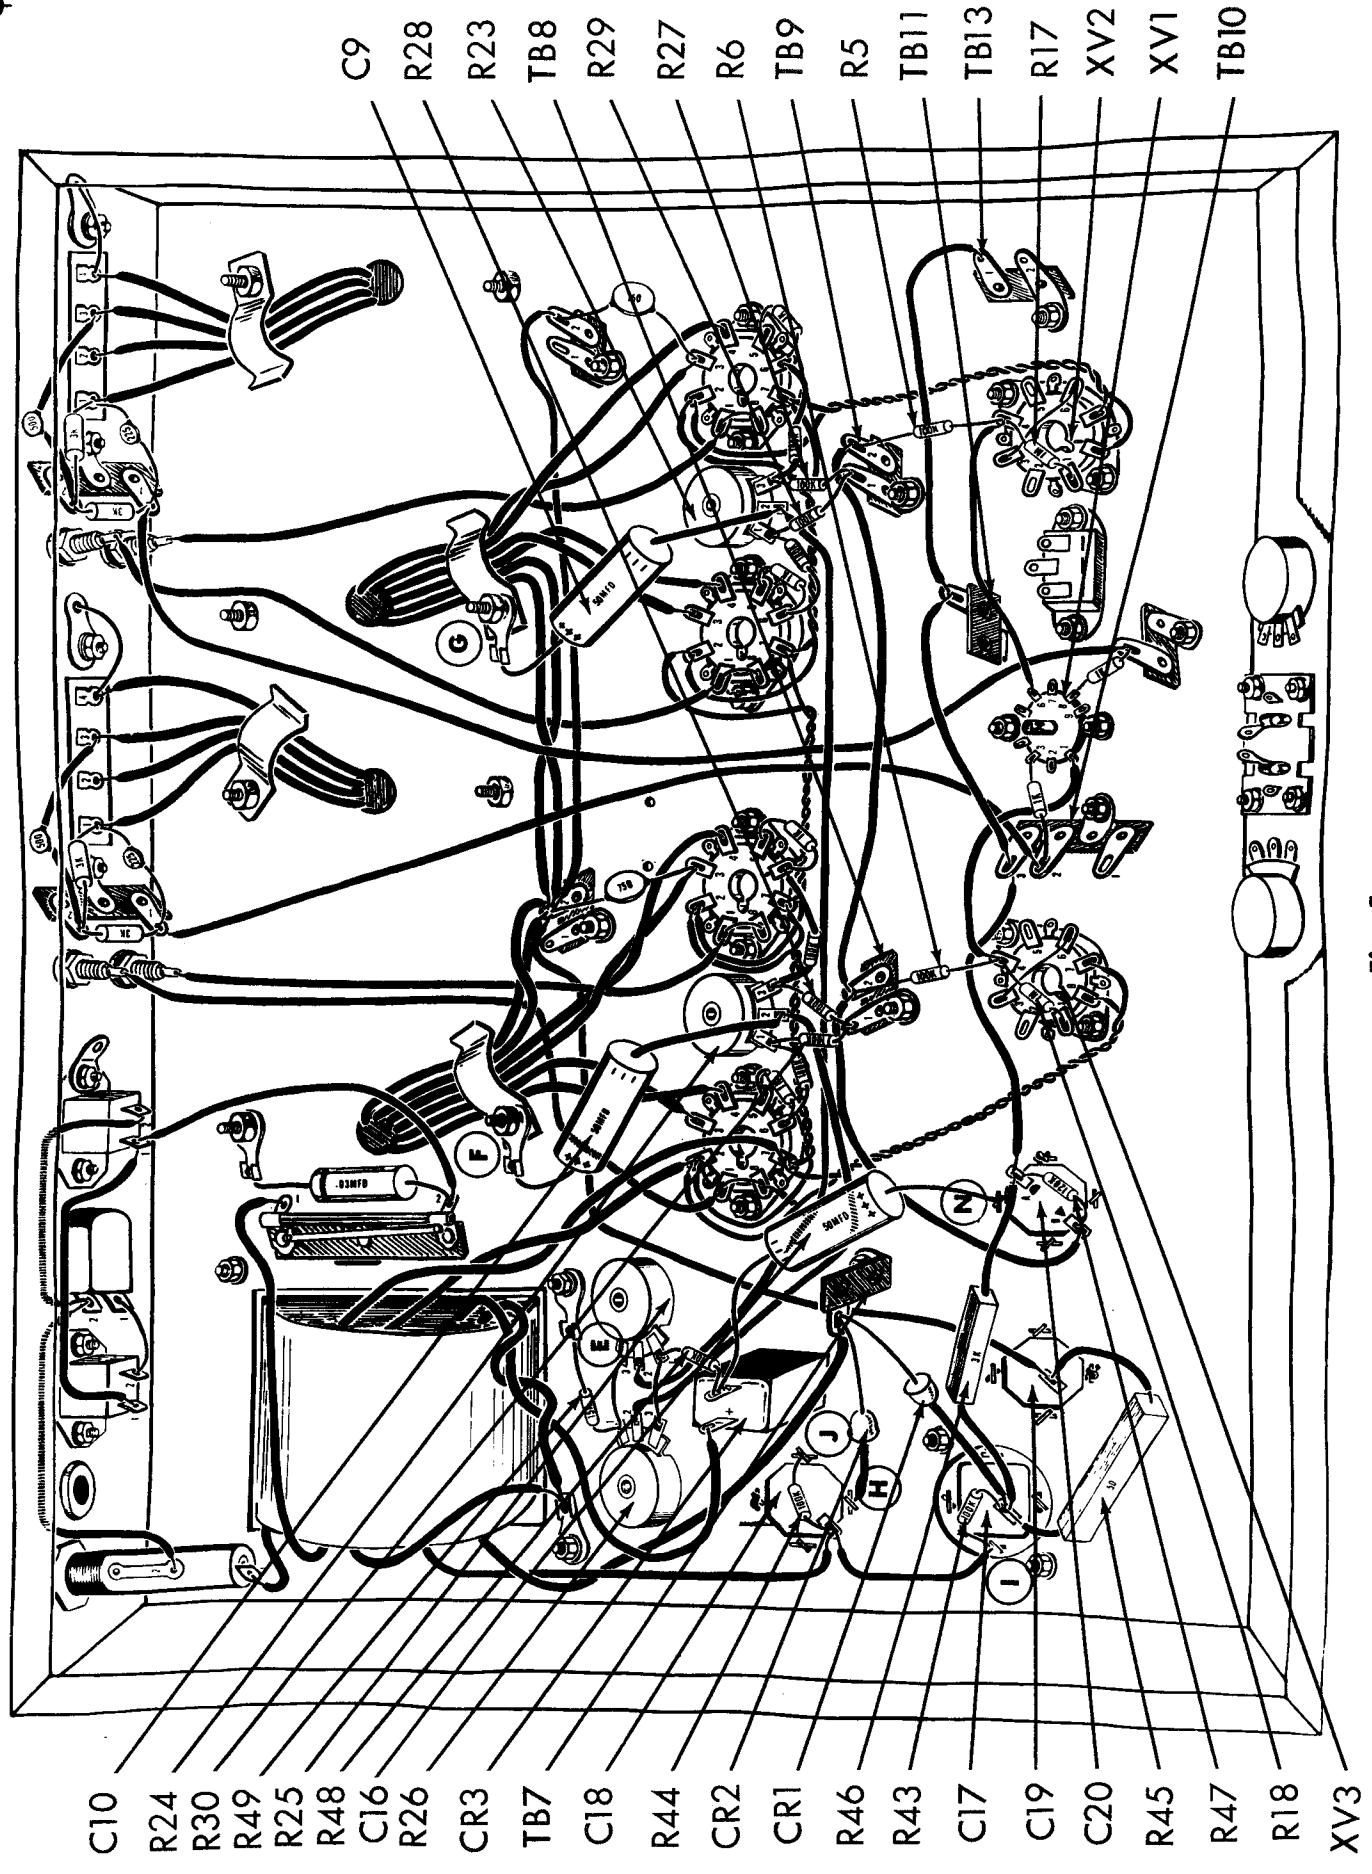

Fig. 5
- ( ) 1. Fig. 5. Cut all leads on three 50mfd, 150 volts electrolytic capacitors, C9, C10 and C16 to 1 1/2". Cover each lead with a 1 1/4" piece of spaghetti. Connect the positive (+) lead on C16 to ground lug "N" (S1) at C20 and the negative (-) lead to CR3-2 (C). Connect the positive (+) lead on C9 to ground lug "G" (S1) and the negative lead to R23-2 (S2). Connect the positive (+) lead on C10 to ground lug "F" (S1) and the negative (-) lead to R24-2 (S2).
- ( ) 2. Fig. 5. Connect a 7" piece of orange wire from TB8-2 (C) to TB9-2 (C).
- ( ) 3. Fig. 5. Cut all leads on four 100K 5% (brown, black, yellow, gold) resistors, R27, R28, R29 and R30, to 3/4". Connect R27 from R23-3 (S2) to TB9-1 (C). Connect R29 from R23-1 (S2) to TB9-1 (C). Connect R28 from R24-3 (S2) to TB8-1 (C). Connect R30 from R24-1 (S2) to TB8-1 (C).
- ( ) 4. Fig. 5. Connect a 3" piece of red wire from C17 (C) to lug "I" (C) at C18.
- ( ) 5. Fig. 5. Cut all leads on two 100K 10% (brown, black, yellow, silver) resistors, R43 and R44, to 1/2". Connect R43 from C17 (C) to lug "I" (S2) at C17. Do not short lug to chassis ground. Connect R44 from C18 (S3) to lug "J" (S1) at C18.
- ( ) 6. Fig. 5. Cut both leads on a 50Ω 10 watt wire wound resistor R45, to 1 1/4". Cover each lead with a 1" piece of spaghetti. Connect from C17 (C) to C19 (S2).
- ( ) 7. Fig. 5. Cut both leads on a 3000Ω, 5 watt, wire wound resistor, R46, to 1 1/2". Cover each lead with a 1 1/4" piece of spaghetti. Connect from C17 (C) to C20-A (C).
- ( ) 8. Fig. 5. Connect a 5" piece of red wire from C20-A (C) to TB10-3 (C).
- ( ) 9. Fig. 5. Connect a 4" piece of red wire from TB10-3 (C) to TB11 (C).
- ( ) 10. Fig. 5. Connect a 4" piece of red wire from TB11 (C) to TB13-1 (C).
- ( ) 11. Fig. 5. You have been supplied in your kit with two silicon rectifiers, CR1 and CR2. Note that excessive heat on the leads of these rectifiers can ruin them. When you solder be careful not to apply any excessive heat to the junctions. While soldering, place a pair of long nose pliers on the lead between the soldered junction and the rectifier to conduct the heat away from the iron so that the heat will not reach the rectifier. With this precaution in mind, you are now ready to wire your rectifiers into the circuit. The rectifiers may take different shapes. The various shapes are indicated in the introductory section to this instruction book. In this same section of the book you will also find the side which is the cathode of the rectifier. Do not cut the leads on either rectifier. Place a piece of spaghetti over the cathode lead of each rectifier. The piece of spaghetti should be of the right length so that 1 1/4" of lead sticks out from the spaghetti. This 1 1/4" extension is to be used in making a mechanical connection to the solder lugs. Connect the spaghetti covered cathode lead of CR1 to C17 (S4) and the other lead to TB7 (C). Connect the spaghetti covered cathode lead of CR2 to TB7 (S3) and the other lead to ground lug "H" (S1) at C18.
- ( ) 12. Fig. 5. Connect a 1 1/4" piece of bare wire from R26-3 (S1) to R25-1 (C).
- ( ) 13. Fig. 5. Connect a 1 1/4" piece of bare wire from R26-1 (C) to R25-3 (S1).
- ( ) 14. Fig. 5. Cut both leads on a 10K (brown, black, orange, silver) resistor R48, to 3/4". Connect from CR3-2 (S2) to R25-1 (S2).
- ( ) 15. Fig. 5. Cut both leads on a 15K (brown, green, orange, silver) resistor R49, to 3/4". Connect from R26-1 (S2) to ground lug "E" (S1).
- ( ) 16. Fig. 5. Cut both leads on a 120K (brown, red, yellow, silver) resistor R47, to 1 1/2". Connect from C20-B (S2) to C20-A (C).
- ( ) 17. Fig. 5. Cut all leads on two 100K 5% (brown, black, yellow, gold) resistors, R5 and R6, to 3/4". Connect R5 from XY2-4 (C) to TB9-2 (S2). Connect R6 from XY3-4 (C) to TB8-2 (S3).
- ( ) 18. Fig. 5. Connect a 1 1/2" piece of bare wire from XY2-3 (C) to XY2-6 (S1).
- ( ) 19. Fig. 5. Connect a 4" piece of green wire from XY1-6 (S1) to XY2-4 (C).
- ( ) 20. Fig. 5. Connect a 1 1/2" piece of bare wire from XY3-3 (C) to XY3-6 (S1).
- ( ) 21. Fig. 5. Cut all leads on two 1 meg (brown, black, green, silver) resistors, R17 and R18, to 1 1/2". Connect R17 from XY2-1 (C) to XY2-4 (S3). Connect R18 from XY3-1 (C) to XY3-4 (S3).